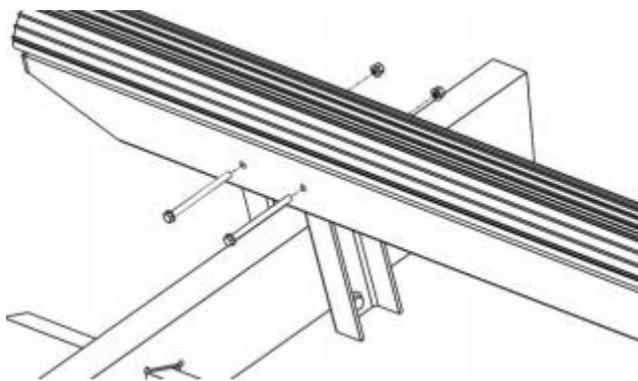

Figure 21
2. Insert one (1) 3/8" Flat Washer over two (2) 3/8" Hex Bolts and insert them into the holes on the Bunk as shown in Figure 21.
3. Attach one (1) 3/8" Lock Nut and one (1) 3/8" Hex Nut to the protruding ends of the Hex Bolts and tighten with appropriate wrench.
4. Repeat these steps seven (7) more times, once for the other side of the Bunk, and six more times for the other Bunks.